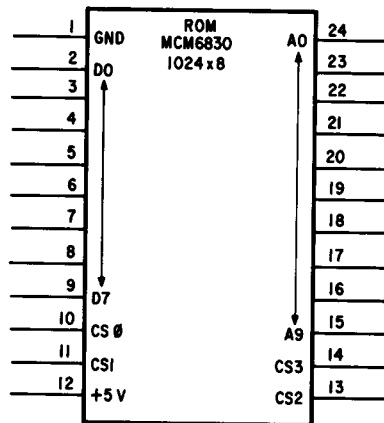

Fig. 9.12 ROM package
The MCM6830 is a TTL compatible, mask-programmable Read Only Memory (ROM). It is a three-state N-MOS chip containing 1024 eight-bit words (bytes) housed in a 24-pin package (Fig. 9.12). The eight ROM data bus pins, D0 through D7, are tied to the MPU data bus pins, D0 through D7. The ten address pins from the ROM (A0 through A9) must be tied to the MPU address bus pins, A0 through A9. These ten address lines are used by the MPU to select an eight-bit word on the particular chip addressed. If there is more than one MCM6830 ROM in the system, the A0 of each ROM is tied to the A0 line in the MPU, the A1 of each ROM is tied to the A1 line in the MPU, and so forth. The MCM6830 ROM has four chip selects available. These four chip selects must be defined by the user as to how many will be positive (CS) and how many negative ($\overline{\text{CS}}$). Since this device is mask-programmable, the